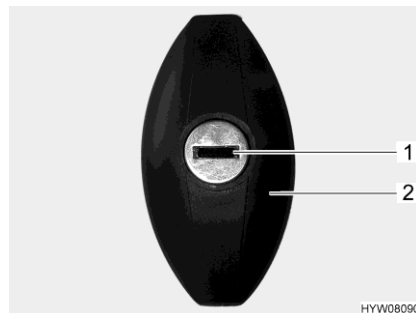

Fig. 59 Flap lock
- Insert key into locking cylinder (Fig. 59,1) and turn one half turn in an anticlockwise direction. The lock handle (Fig. 59,2) snaps out.